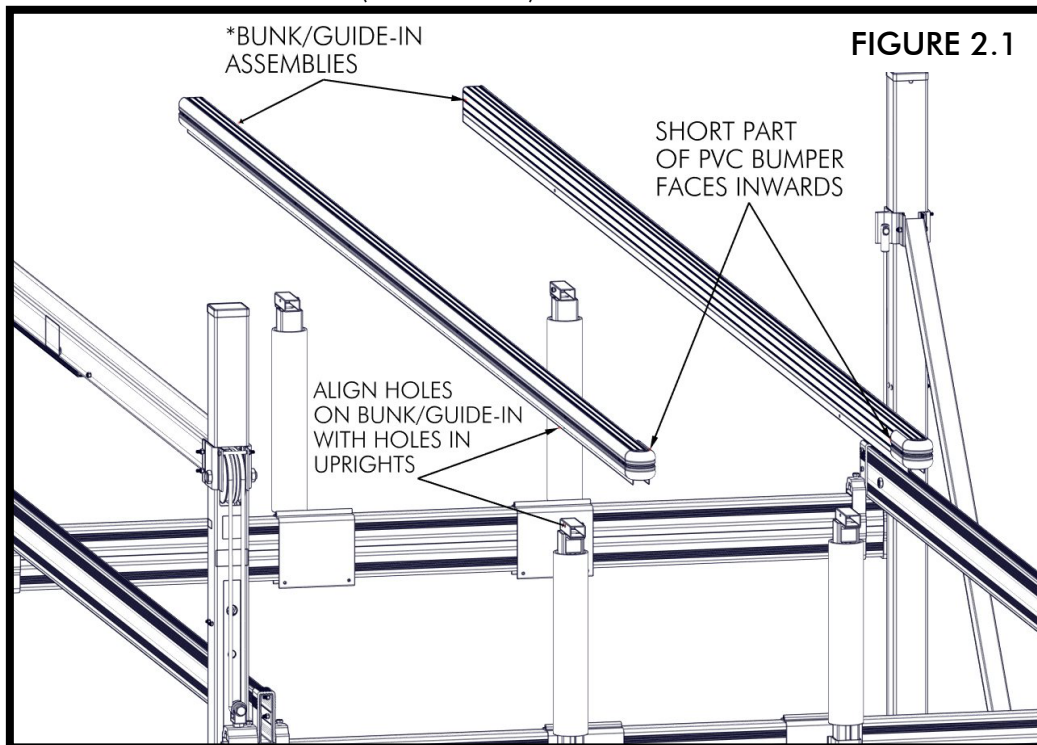

FIGURE 2.1
PLACE BUNKS ONTO UPRIGHTS (FIGURE 2.1) AND ATTACH USING (2) 3/8" X 3 3/4" BOLTS AND (2) 3/8" NUTS PER UPRIGHT (FIGURE 2.2).